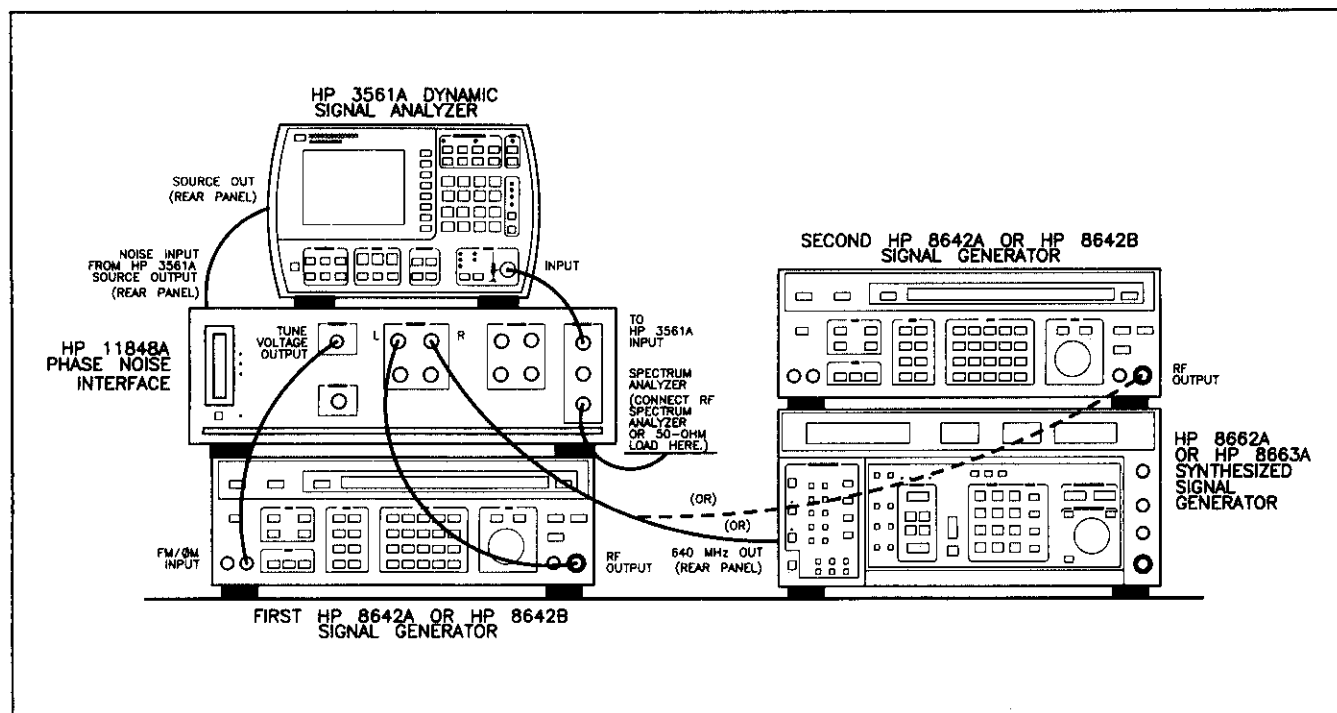

Figure 37. Spectral Purity Tests for Options 005 and 006 Setup
10. Connect the instruments as shown on the display and in figure 37. If an HP 8642A or 8642B Signal Generator is used as the second RF source, set its RF output for 640 MHz CW at +6 dBm.